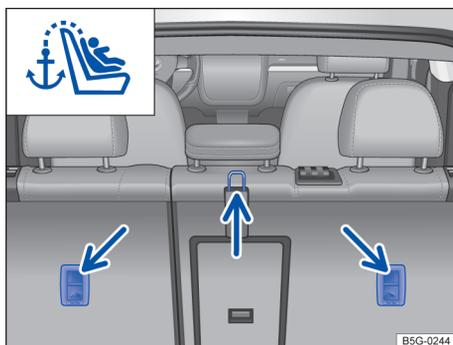

Fig. 46 Anchorages for the top tether strap on the back of the rear seat.
- Locate the tether anchor behind the rear seat backrest → fig. 46.
- Attach the tether strap anchorage hook into the opening of the tether anchorage → fig. 46.